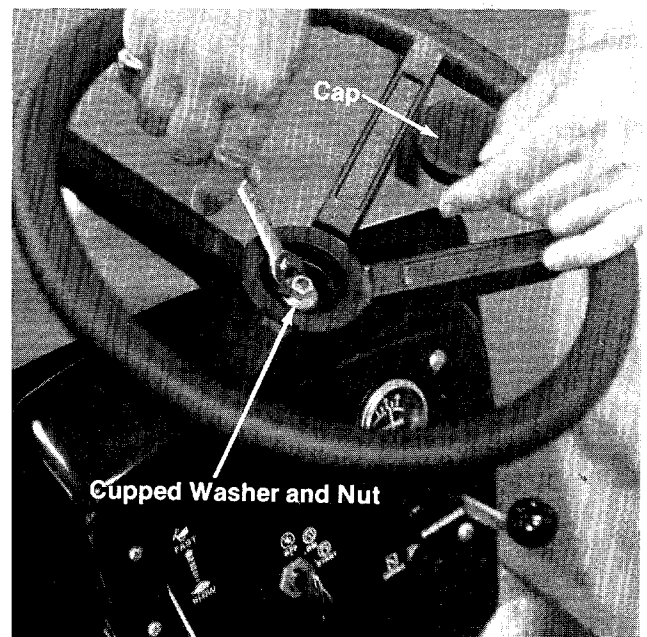

FIGURE 4
1. Place the steering wheel over the steering column extending through the dash. Line up the flats on the steering column with the flats in the steering wheel. (See figure 4.)